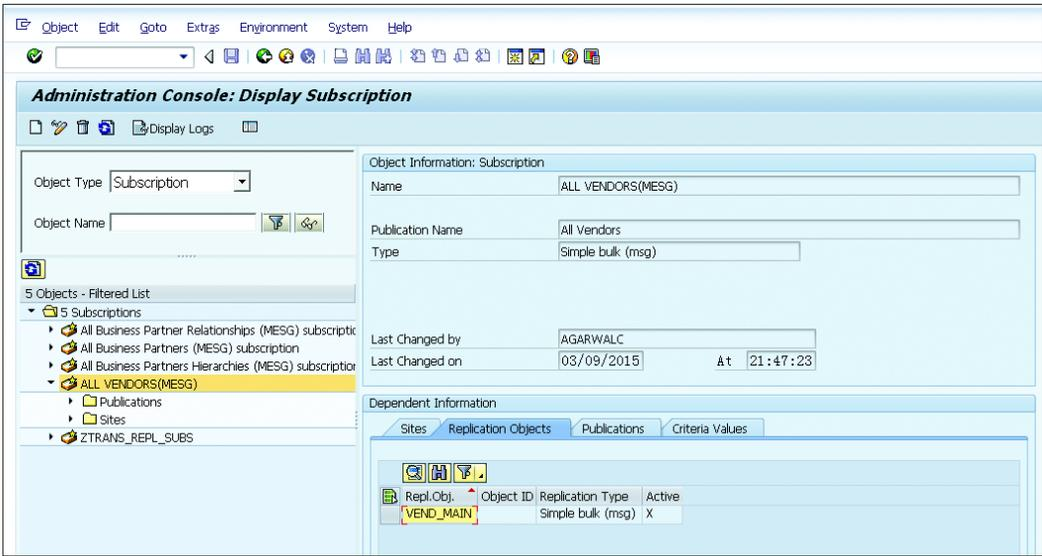

Figure 2.58 Vendor Subscription in Transaction SMOEAC
3. Create a subscription for vendors in Transaction SMOEAC. In Transaction SMOEAC (Admin Console), there will be a subscription for publishing ALL VENDORS to the SAP ERP system (site). For example, you specify "ALL VENDORS" as the subscription's NAME (see Figure 2.58).